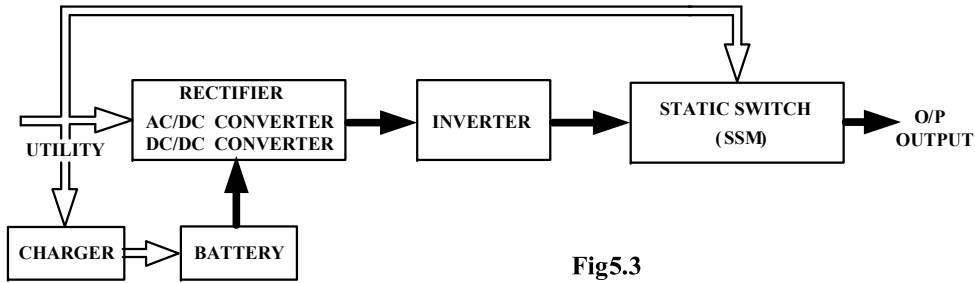

Fig5.3
3. During a utility outage the UPS will work as illustrated in Figure 5.3. When the batteries are low the buzzer will beep continuously until the batteries are completely cut off. The low-battery protection of the UPS will cut off the battery supply at a preset threshold to avoid over-draining the batteries.